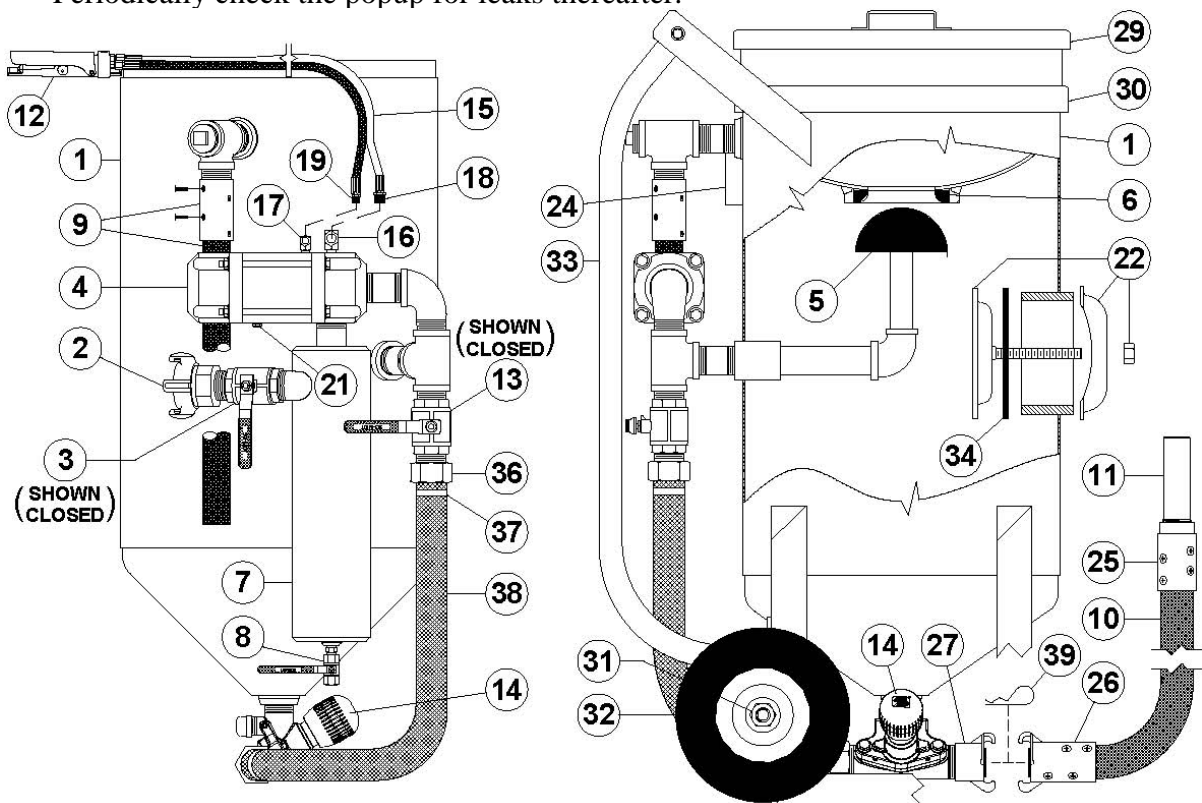

Figure 7.1 – Micro Valve Abrasive Blaster with pneumatic blast controls
7.1.2. Remove the vessel lid (#29) and screen (#30) to check that the popup (#5) has dropped open. The open popup indicates that the blast vessel is depressurized. See Figure 7.1.